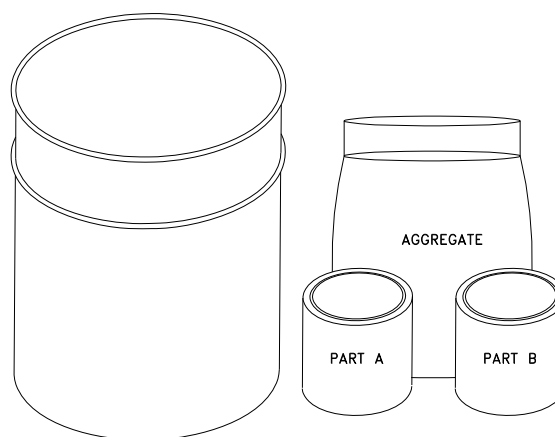

Figure 11
STEP 7. Select a clean 6-gallon pail and one unit of Balco, Inc. Elastomeric Concrete - EC11 (Part A, Part B and Aggregate) (Figure 11). Pour one unit of Elastomeric Concrete - EC11 liquid parts A and B into the pail and briefly mix (5-10 seconds) with a heavy-duty drill and paddle. Immediately and progressively add the pre-measured graded aggregate (Balco EC11 Aggregate) and blend into the liquid until all components are fully mixed.